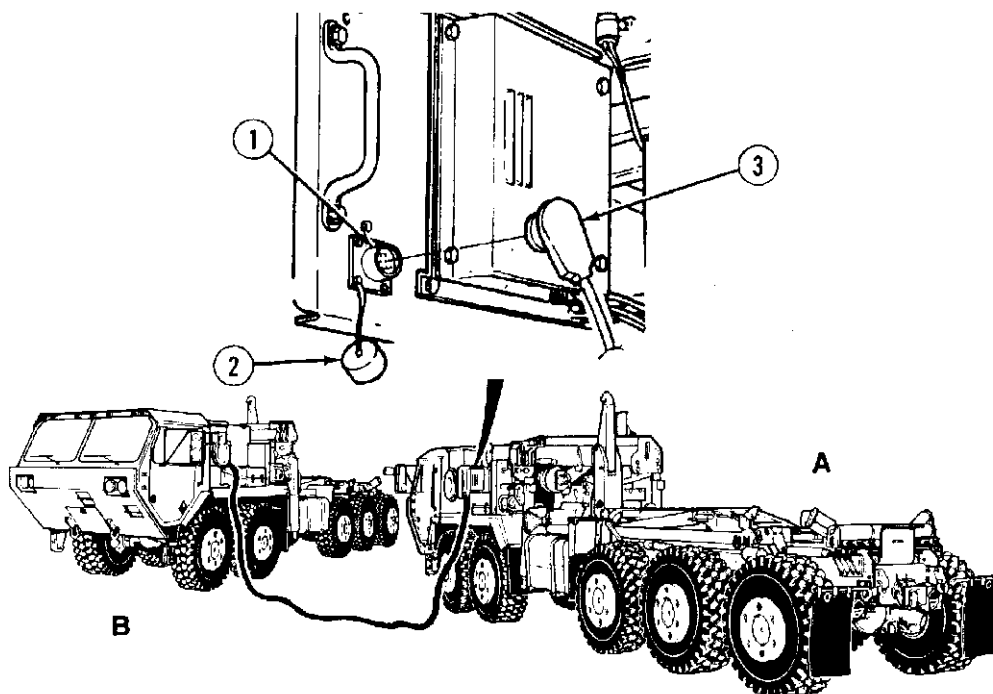

Figure 12. 28 Slave Cable
- 12.11.1.6 Plug the NATO slave cable connectors (Figure 12. 28. (3)) into the slave receptacles (Figure 12. 28. (1)) on truck (A) and launch vehicle (B).
- 12.11.1.9 When the launch vehicle engine is running smoothly, remove the NATO slave cable connectors (Figure 12. 28. (3)) from slave receptacles (Figure 12. 28. (1)) on trucks (A and B).